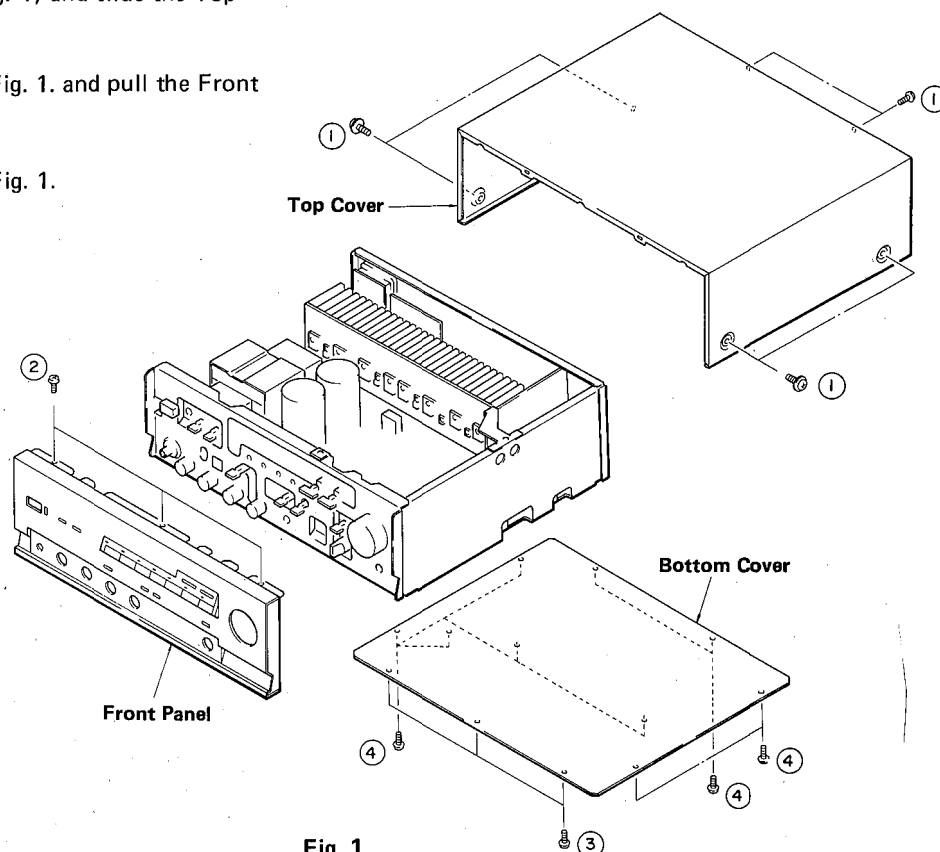

Fig. 1
Remove 6 screws ( ① ) in Fig. 1, and slide the Top Cover back.
Remove 6 screws ( ②, ③ ) in Fig. 1. and pull the Front Panel forward.
Remove 9 screws ( ③, ④ ) in Fig. 1.